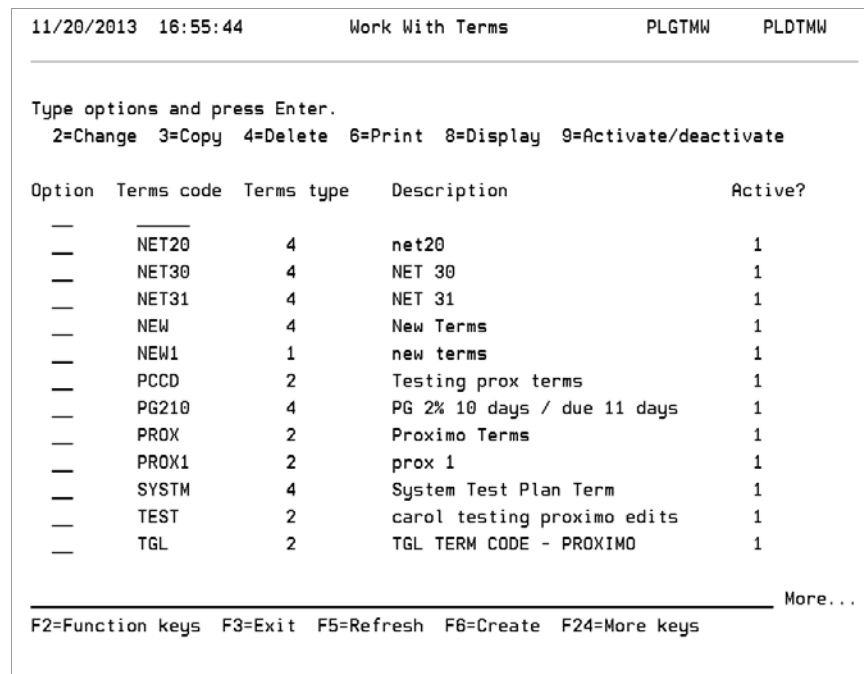

Figure 3-5: Work With Terms selection screen
- 2 Select *Work with terms* [WWT]. The system displays the screen shown in Figure 3-5.